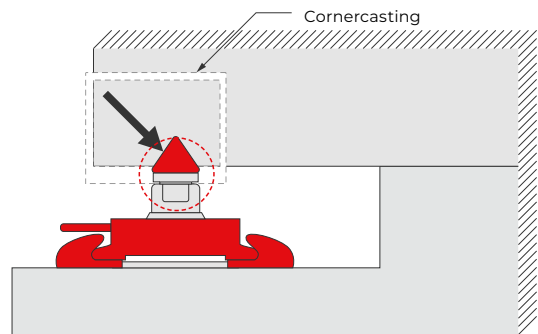

Figure 2 Cone of twistlock is not fully inserted into corner casting. Top of hatch cover is to high for standard bottom twistlock.
- Figure 2: a standard twistlock is used instead of a line load twistlock